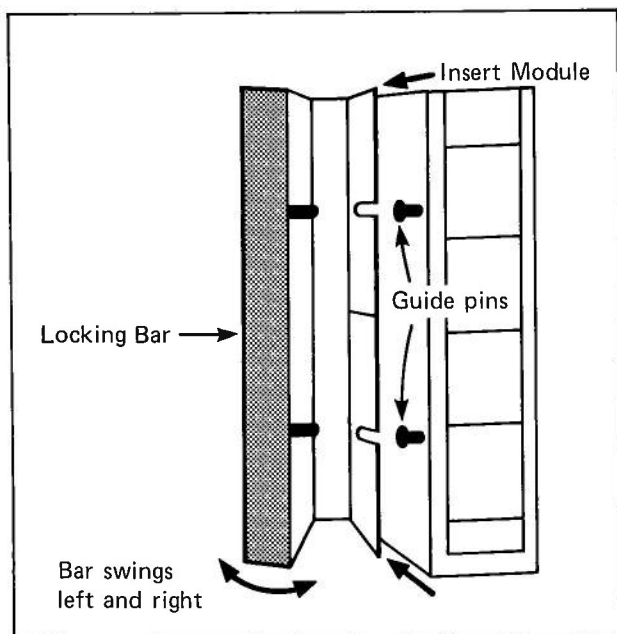

Figure 4 — Guide Slots
Step 5 – Move the Locking Bar on the I/O Rack's built-in terminal block to the left in order to uncover the guide slots on the block. (See Figure 4.)